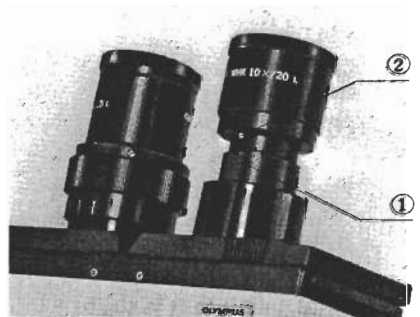

Fig. 7
- 1) At the time of inserting the eyepieces into the observation tube, take care to insert the eyepiece with cross hairs or micrometer of your choice into the right eyepiece tube, aligning the positioning slot ① and positioning pin ②. (Fig. 7)